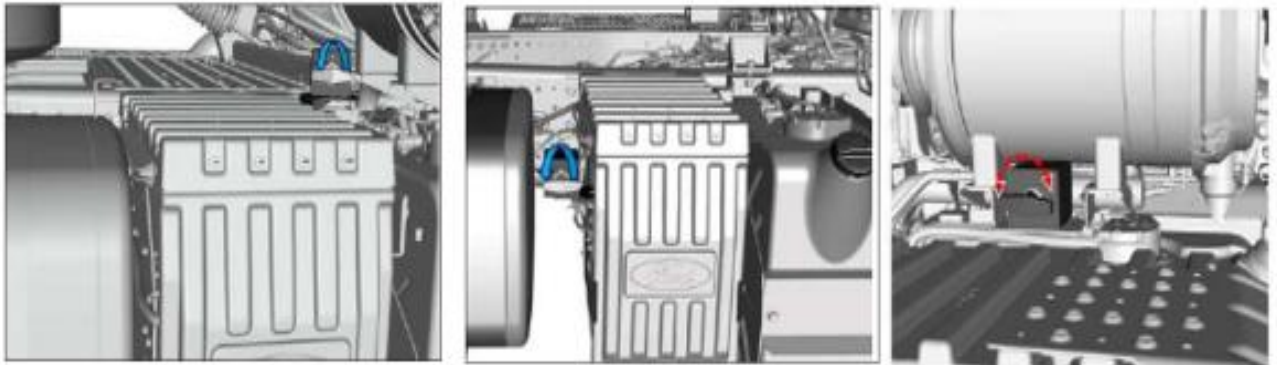

Figure 2: Switch Located on the Vehicle Chassis
- 1) Firstly, the switch in **Figure 2** is turned off to disconnect the electrical connection.